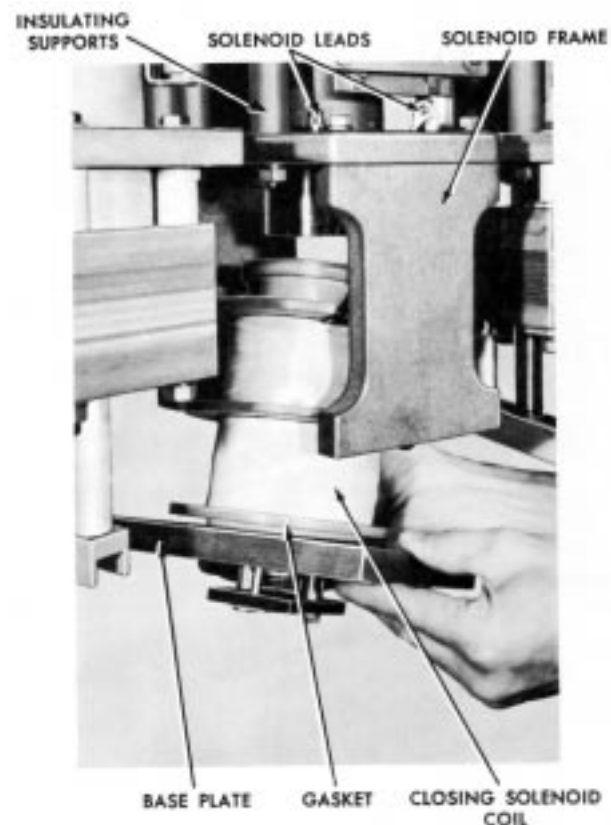

Figure 17
1. Disconnect the two coil leads from the closing solenoid contactor, figure 17.